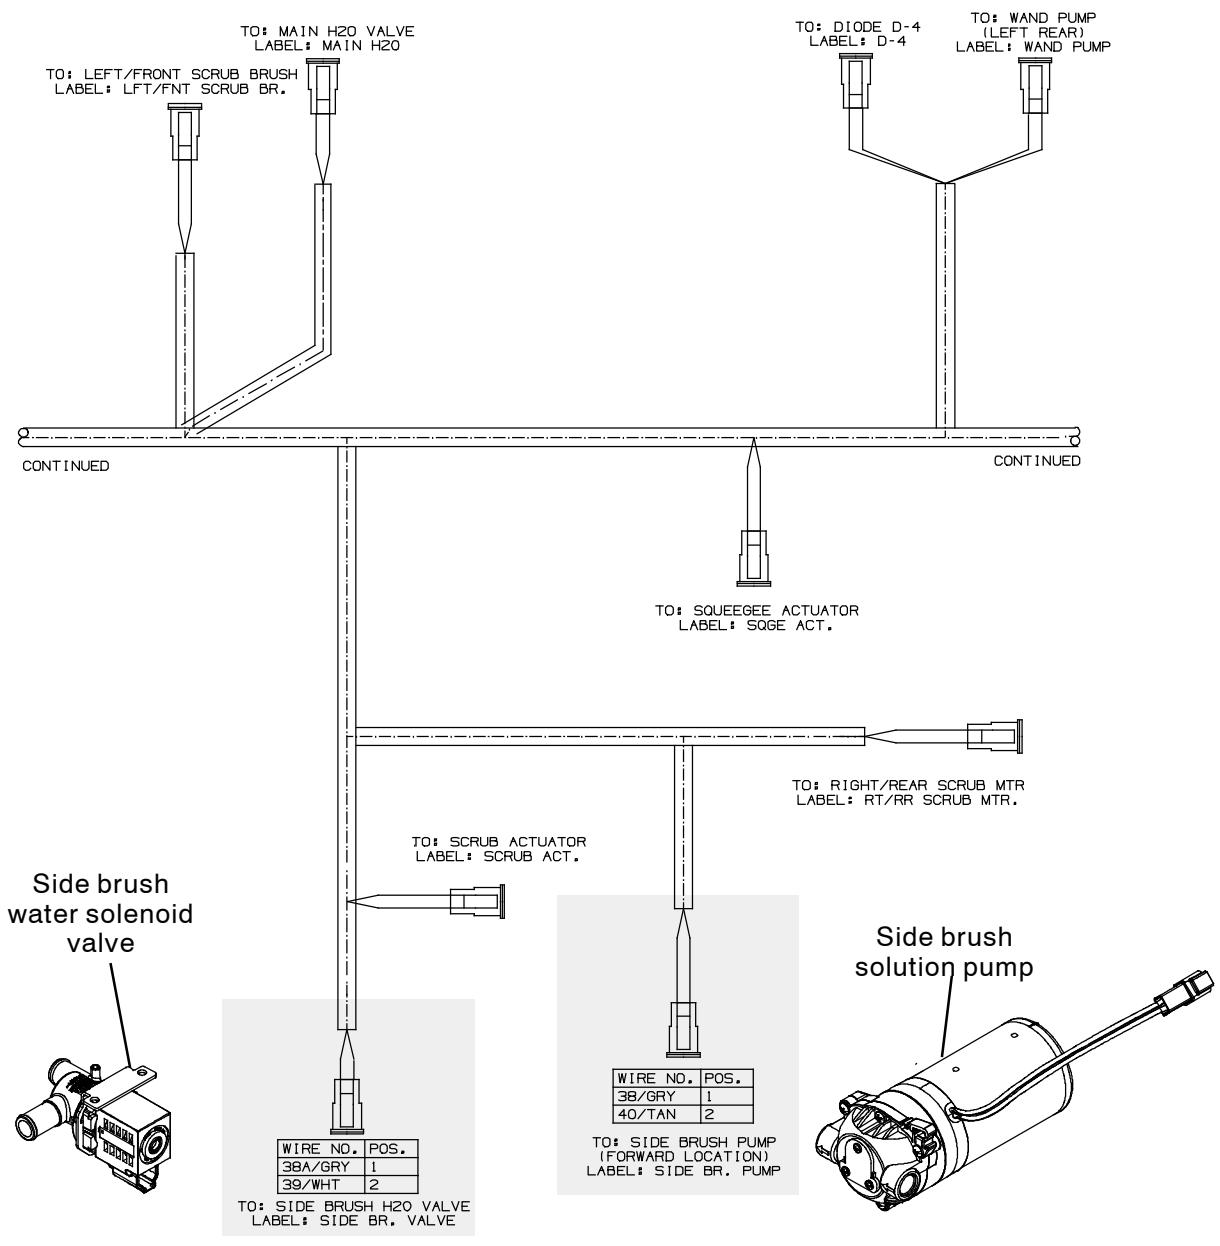

FIG. 26
52. Connect the side brush harness to the side brush motor and side brush actuator. (Fig. 26)
53. Connect the main wire harness to the side brush motor and side brush actuator. (Fig. 26)